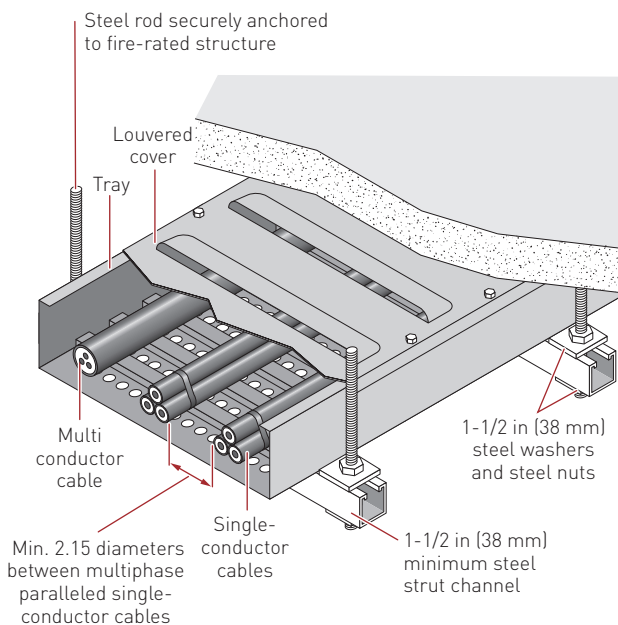

Figure 6: Cable tray
- 3B. **Cable Tray-type Supports** (Figure 6) – The MI cable(s) shall be installed within cables trays. The cable tray-type supports shall be secured to the surface of the wall or floor. Refer to the Manufacturer's Installation Instructions for additional details.